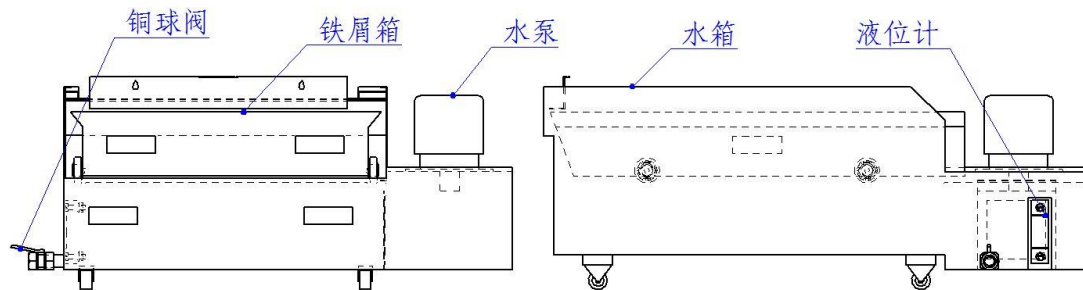

Figure. 7: schematic diagram of cooling chip
3.1.7 Cooling chip removal device (see fig.7 for cooling discharging device)